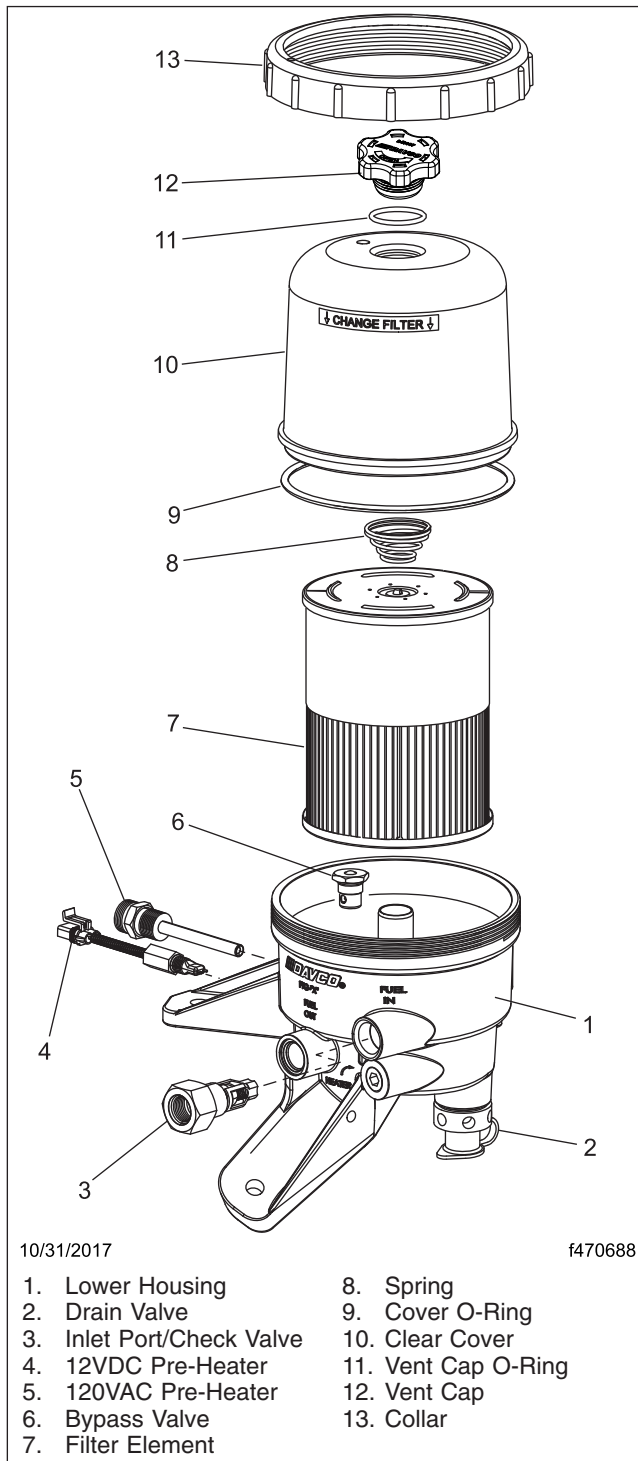

Fig. 2, DAVCO Fuel Pro 485
4. Remove the vent cap, shown in Fig. 2, to drain the fuel completely, then close the drain valve.
6. Remove the filter, cover O-ring, and vent cap O-ring. Dispose of them in an environmentally acceptable manner. See Fig. 2.